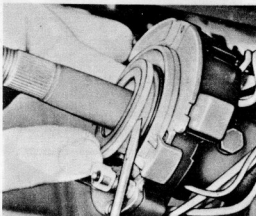

Fig. 10.24. Removing the horn contact ring (Sec. 24)
- 4 Prise out the horn contact ring from the centre of the switch yoke (Fig. 10.24).